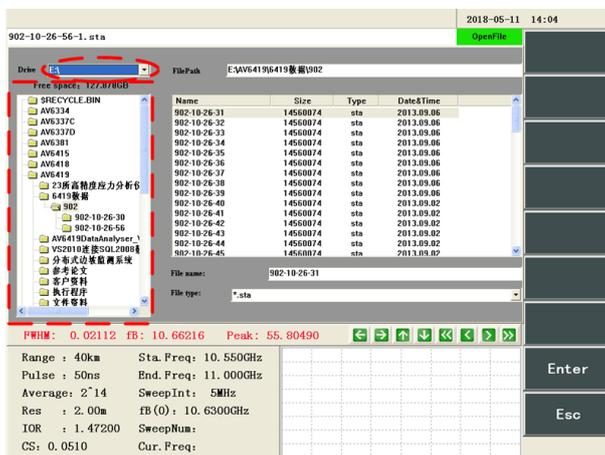

Figure 8-20 File opening interface
Step 1: Click [File] → [Open] on the main interface to enter the interface as shown in Figure 8-20.
Step 2: Select the index disk in the file opening interface of Figure 8-20, list the information tree under the index disk, select the file folder and file type, all the files in the folder will be listed, select the files to be opened from the list, and click [OK] to open the file.